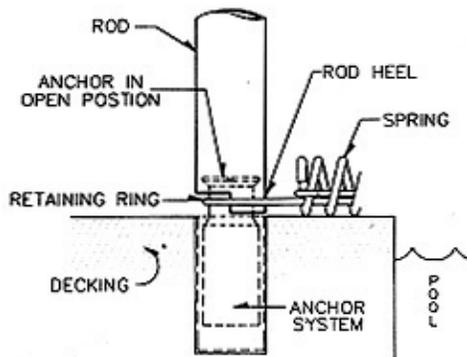

Figure 2
*If you remove the water from your winter cover by any other means than what is described above, be sure to have water running into the pool under the cover at the same time and at the same rate as the water is being removed from on top of the cover. If you have any questions, please call us at (508) 485-1307.
- a. Insert Installation Rod over anchor bolt with heel of rod facing cover (see Figure 2 below)